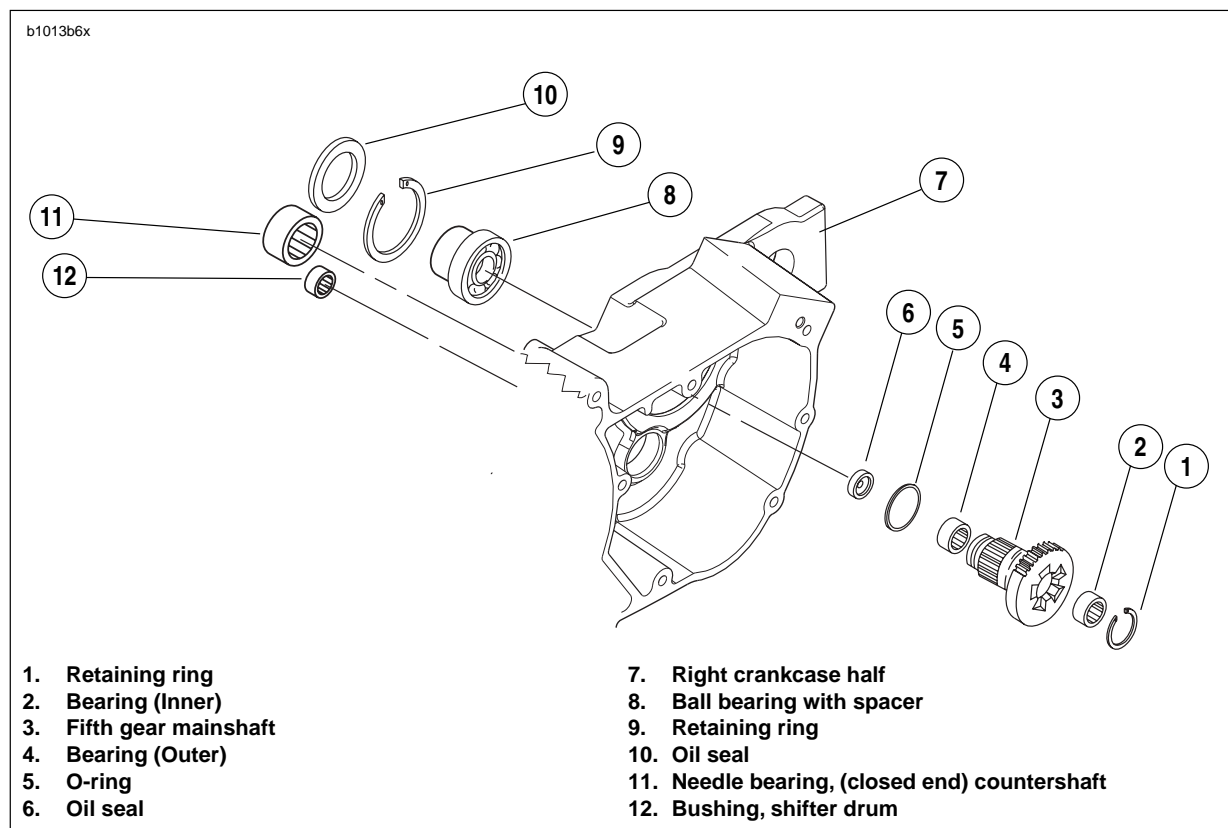

Figure 6-84. Transmission Assembly-Right Crankcase Half
- See Figure 6-84. From inside transmission case use a suitable BEARING DRIVER/PULLER to remove countershaft bearing (11) from crankcase bore.
- See Figure 6-84. From the outside of the case place the closed end needle bearing (11) open end first next to the bearing bore. Hold the driver squarely against the closed end of the bearing and tap the bearing into place. The bearing is properly positioned when it is driven flush or 0.030 in. (0.762 mm) below the outside surface of the case.
- See Figure 6-84. Using SNAP-ON BUSHING DRIVER SET (Part No. A-157C) with a 1/2 inch adapter (Part No. A157-8), install **new** bushing (12).